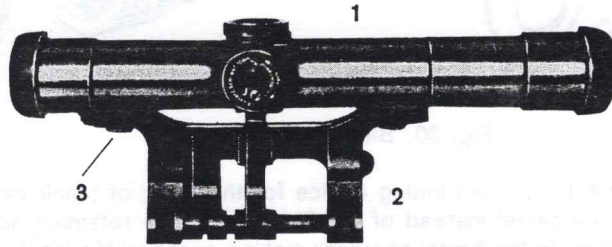

Fig. 28: Telescopic sight G3 with mount
##### (1) Telescopic sight G3 with mount (Fig. 28)